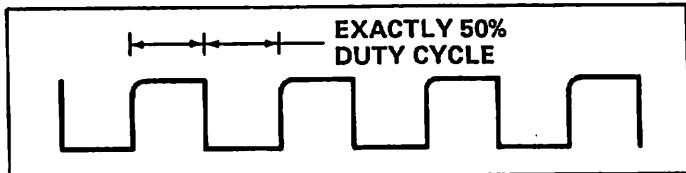

FIGURE 4-6 SQUARE WAVE AT JUNCTION OF R44 AND R119
b) Depress CLARINET (REED HOLLOW, Satellite) tab switch and adjust square wave adjust trimpot R47 for a symmetrical square wave as shown in Figure 4-6.